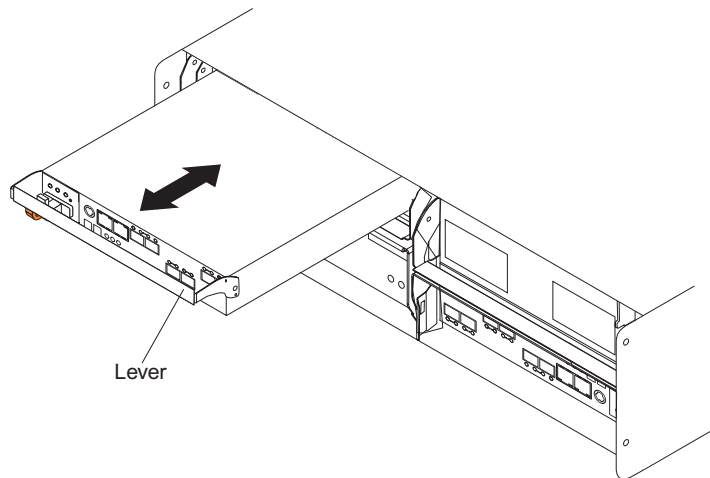

Figure 16. Removing and replacing a controller
2. Slowly pull the lever away from the chassis to remove the controller from the bay, as shown in Figure 16 on page 40.